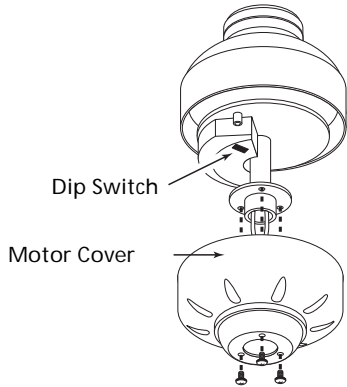

Figure 9a
**IMPORTANT:** Before using this control, change the factory default DIP switch settings on the Remote and the Fan, to your own unique code. Refer to Figure 9a, 9b and 9c.
2. Through the view hole on top of the motor, locate the dip switch. Refer to Figure 9a.
See Figures 9a, 9b, and 9c. The battery must be removed when changing dip switch settings.